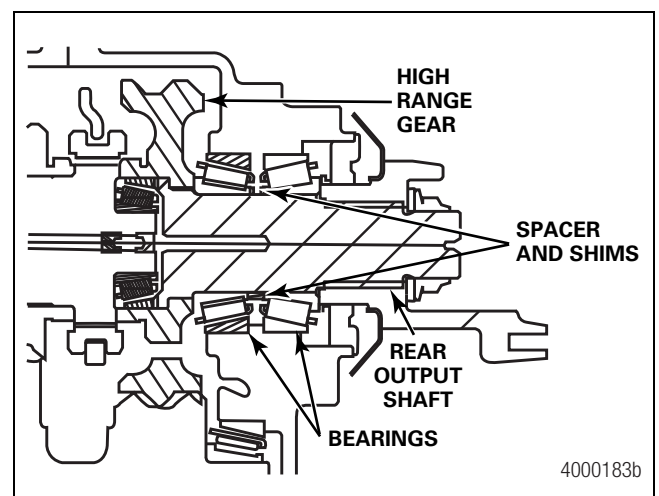

Figure 6.27
1. If the rear output shaft and cover assembly has been disassembled, install the rear output shaft, bearing cones, spacer and shims, yoke into the rear cover. Temporarily tighten the yoke nut to 700-900 lb-ft (949-1220 N•m). Place the rear cover on the bench to measure bearing end play. Refer to the bearing cup and shim installation procedures in this section. Figure 6.27.